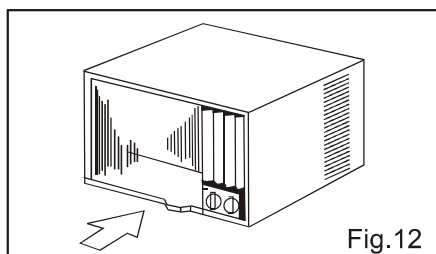

Fig.12
- 6) Carefully slide the unit back into the cabinet.(Fig.12)